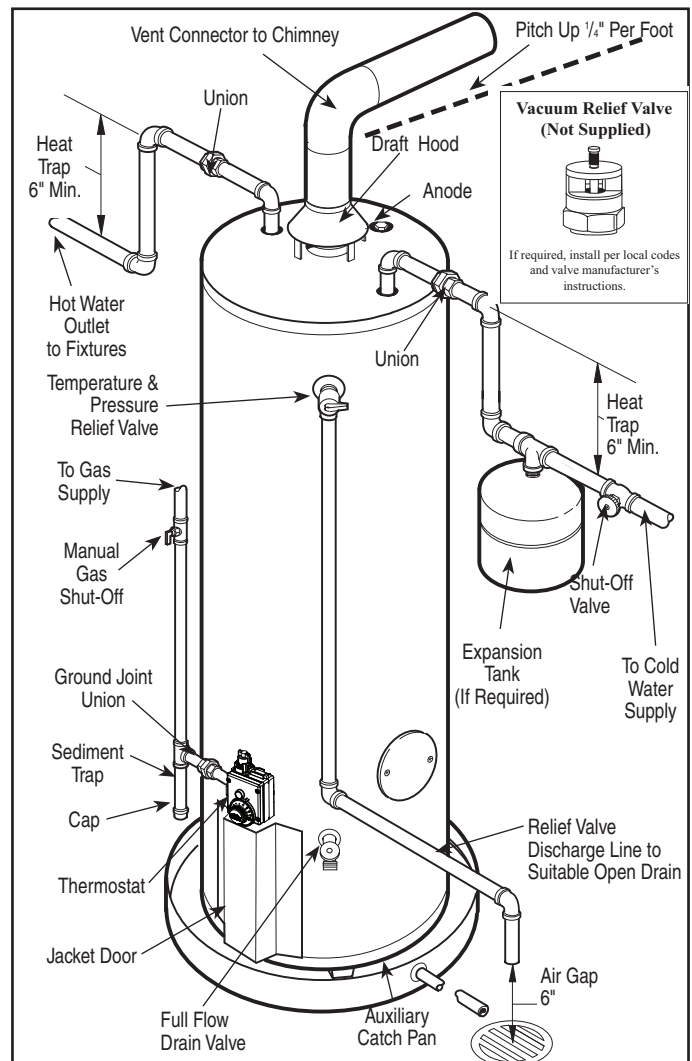

Figure 2 — Typical Installation
The suggested method of controlling thermal expansion is to install an expansion tank in the cold water line between the water heater and the check valve. (refer to Figure 2.) The expansion tank is designed with an air cushion built in that compresses as the system pressure increases, thereby relieving the over pressure condition and eliminating the repeated operation of the relief valve. Other methods of controlling thermal expansion are also available. Contact your installing contractor, water supplier, or plumbing inspector for additional information regarding this subject.
**WATER SUPPLY CONNECTIONS**— Refer to Fig. 2 for suggested typical installation. The installation of unions or flexible copper connectors is recommended on the HOT and COLD water lines, so that the water heater may be easily disconnected for servicing if necessary. The HOT and COLD water connections are clearly marked.
- 5. GAS SUPPLY**—The branch gas supply line to the water heater should be clean  $\frac{1}{2}$ " black steel pipe or other approved gas piping material. A ground joint union or ANSI design certified semi-rigid or flexible gas appliance connector should be installed in gas line close to the water heater, and a manual gas shut-off valve should be installed in the gas line prior to the union. The manual gas shut-off valve should be readily accessible for turning on or off. A sediment trap should be installed at bottom of the gas line. (Refer to Fig. 2)
- 6. LEAK TESTING**—The water heater and its gas connections must be leak tested at normal operating pressures before it is placed in operation. Turn on the manual gas shut-off valve near the water heater (Refer to Fig.2). Use a soapy water solution to test for leaks at all connections and fittings. Bubbles indicate a gas leak that must be corrected. The factory connections to the thermostat should also be leak tested after the water heater is placed in operation.
The water heater must be isolated from the gas piping system by closing the manual gas shut-off valve (Refer to Fig. 2), during any pressure testing of the gas supply piping at pressures equal to or less than  $\frac{1}{2}$  psi (14" W.C.).
- 7. VENTING**—This water heater must be installed with the factory supplied draft hood in place. (Refer to Fig. 2.) Vent connectors must be attached to the draft hood outlet to connect the water heater to the gas vent or chimney. The vent connectors must be the same size (diameter) as the draft hood outlet or larger, never smaller. For proper venting in certain installations, a larger vent connector size may be needed. Consult Vent Tables in Appendix "G" of the latest version of the National Fuel Gas Code or NFPA booklet Z22399-IN1 .